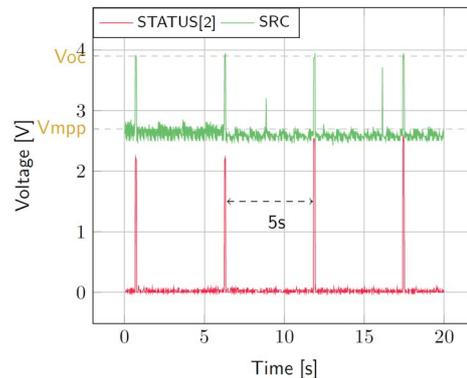

Figure 4: SRC and STATUS[2] while energy is extracted from SRC (BATT under V_{OVCH})
- SRC: Regulated at V_{MPP} , which is a voltage equal to the open-circuit voltage (V_{OC}) times the MPP ratio defined in Table 4. V_{SRC} equals V_{OC} during MPP evaluation (see Figure 4). Note that V_{src} must be higher than 380 mV to coldstart.
- STATUS[2]: Asserted each time the AEM10941 performs a MPP evaluation (See Figure 4).